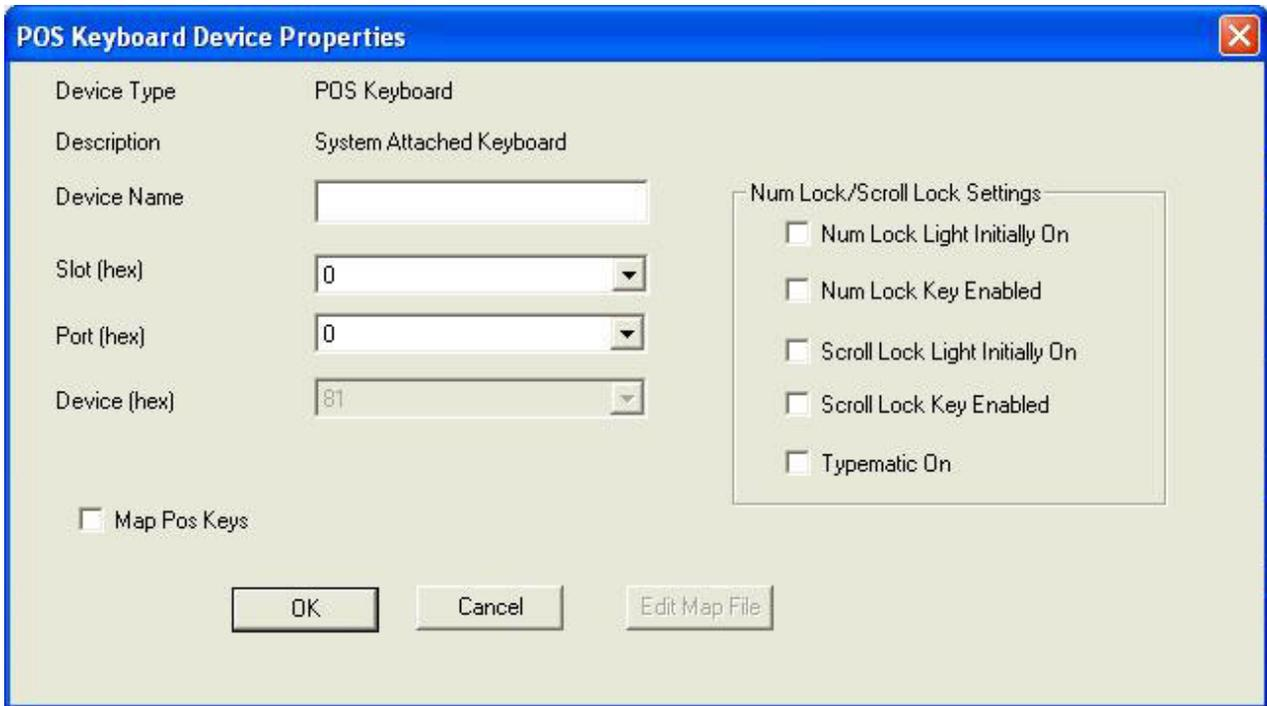

Figure 21. Keyboard properties dialog
1. Select a POS keyboard entry and click **Configure**. The keyboard configuration dialog is displayed (see Figure 21 on page 144).